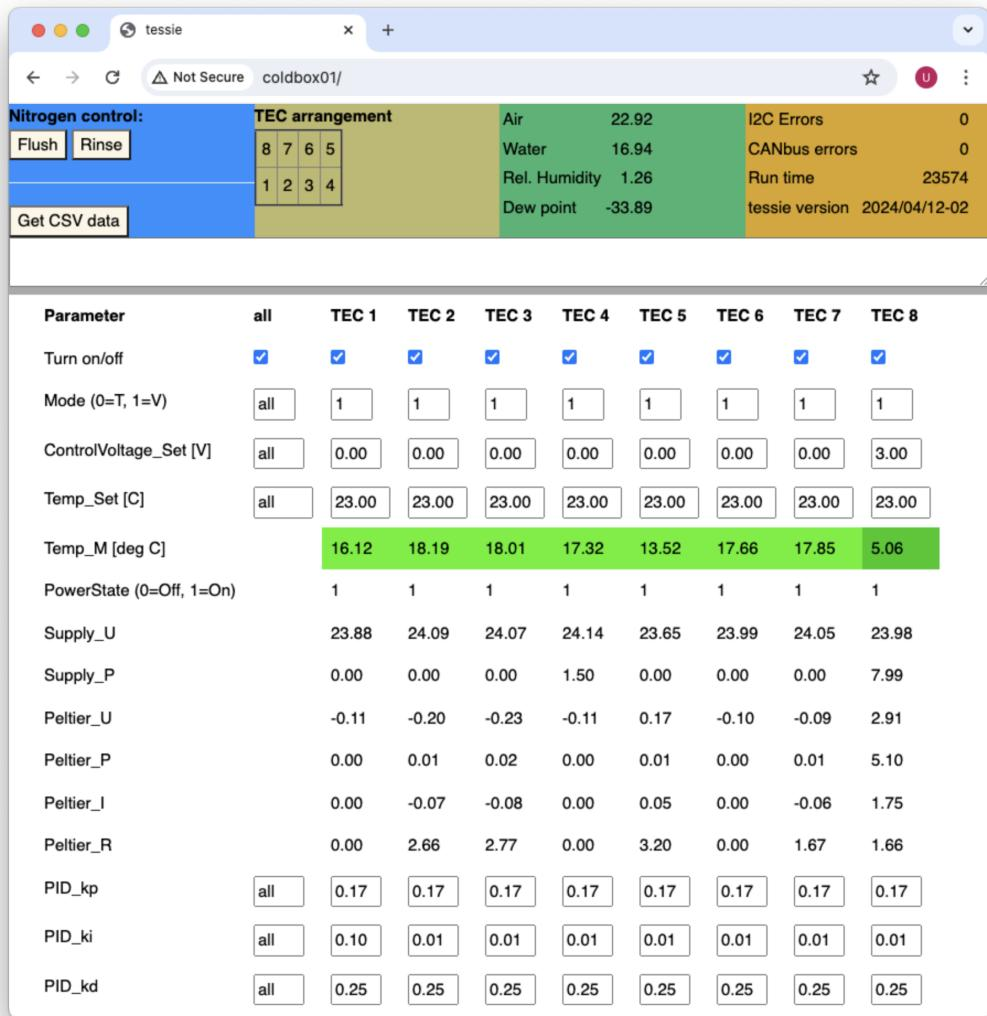

Figure 7: Web graphical interface to **tessie**. The top right brown-yellow box will turn red in case the connection to **tessieWeb** is interrupted.
The normal manual way to interact with `tessie` is through a webbrowser. Point your favorite browser to <http://coldbox03>, cf. Fig 7.
Figure 6: The GUI appearing on the Raspberry Pi touch screen. The interaction possibilities are limited to (1) controlling the N2 flow with "Rinse" and "Flush", (2) stop operations with "STOP ALL" which will turn off all TECs and turn on maximal N2 flow by opening both the rinse and flush valves, and (3) "Quit"-ing the program. The bluish background color shade on the "Rinse" button indicates that this valve is open and N2 is flowing (and therefore the relative humidity is low). For full control of `tessie` you should use the web interface shown in Fig. 7.